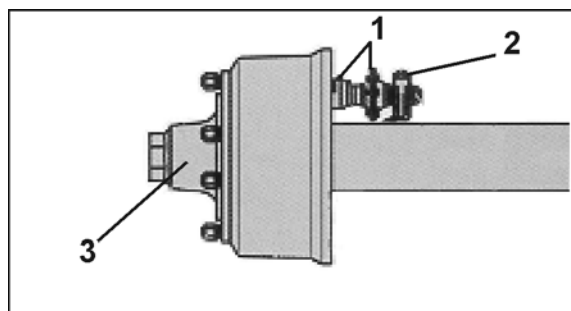

Fig. 152
1. Unscrew the two cover plates (Fig. 152/1) on the inside of the brake drum.
Dirt entering the drums may be deposited on the brake pads (Fig. 152/2) and thus die appreciably reduce brake performance.